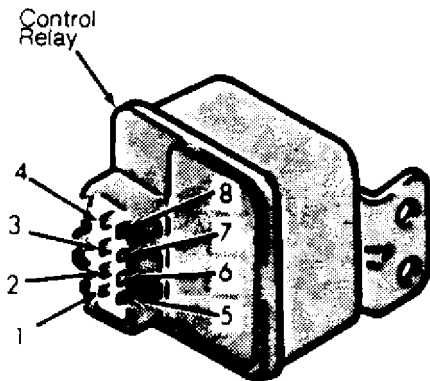

Fig. 8: MPI Control Relay Connector ID (1.5L)
1) For relay location, see MPI CONTROL RELAY LOCATION table. Check for battery voltage at terminal No. 4 of relay connector. See Fig. 8. If battery voltage is present, go to step 3). If battery voltage is not present, check circuit between relay and battery, including fusible link No. 1. Go to next step.